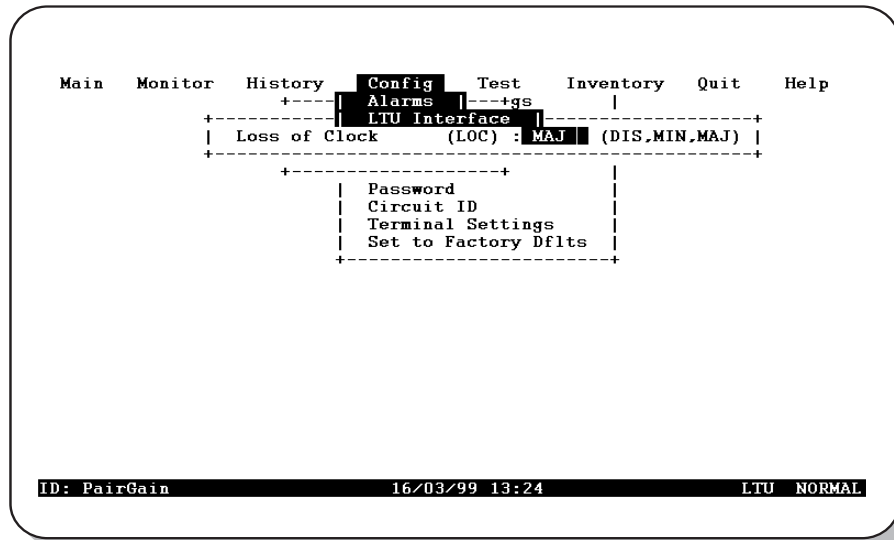

Figure 27. Config Alarms LTU Interface Menu
- **L** for the *Config Alarms LTU Interface* menu (Figure 27)